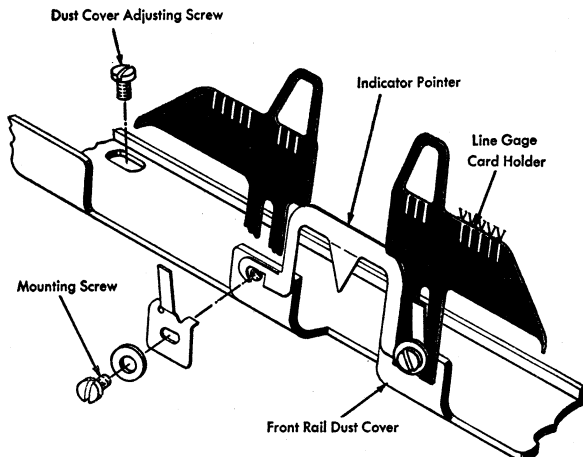

Figure 22. Line Gage Card Holder Adjustment
- a. Up or down so when viewed from the operator's position, a thin line of white shall be visible between the feet of the characters and the reference edge of the card holder (Figure 22).
- b. Left or right by loosening the screws in the front rail dust cover and positioning the dust cover to align the marks on the card holder with the bottom of the V's typed on the paper (Figure 22).
gage card holder screws which secure the indicator pointer to the front rail dust cover (Figure 22).